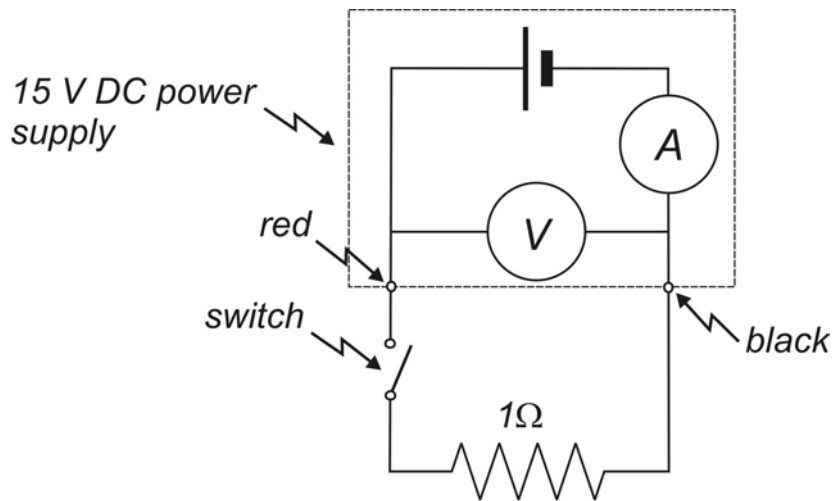

Fig. 1 The circuit for the heat experiment.
1. Check that the power supply is switched off and connect the 1Ω resistor and the switch in series to its black and red terminals with electrical leads (see **figure 1**).